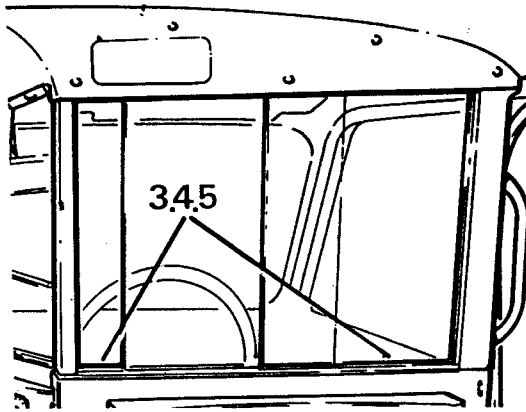

Figure 14
3. From within the passenger compartment, remove the inset strip from the glass runner frame. See figure 14.